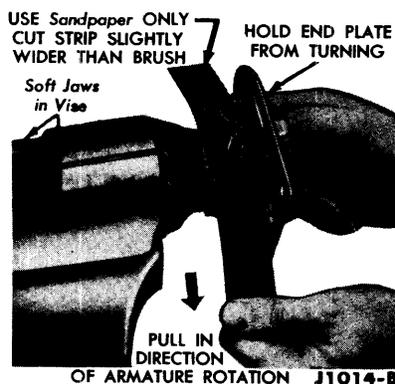

FIG. 11—Generator Brush Seating
4. Install the brush arms and springs. Insert new brushes in the brush holders and seat them (Fig. 11).
the new brushes by sanding them in as shown in Fig. 11. Attach the brush terminals.